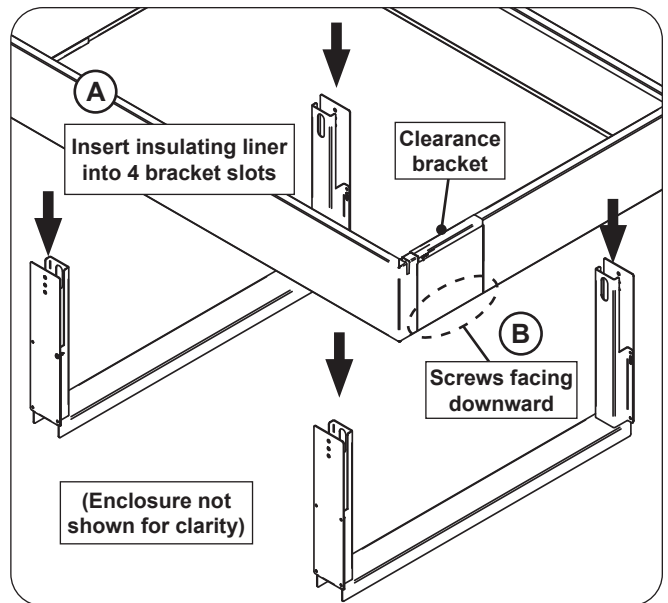

Fig. 3-1 Install insulating liner
- Carefully insert the insulating liner into the hanging bracket support frame. See Fig. 3-1, A. The liner should rest flush with the top surface of the enclosure.
Important: Ensure the insulating liner is oriented with the clearance bracket on the right side and the screws on the bracket facing downward. See Fig. 3-1, B.